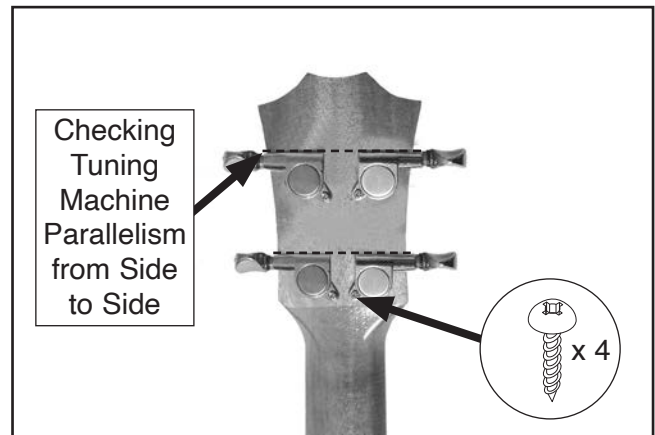

Figure 24. Front and rear view of completed headstock.
4. Set a straightedge across top of each pair of machine tuners to ensure they are parallel with each other from side to side, as shown in **Figure 24**.
5. Secure each tuning machine to headstock with (1) tuning machine screw, as shown in **Figure 24**.